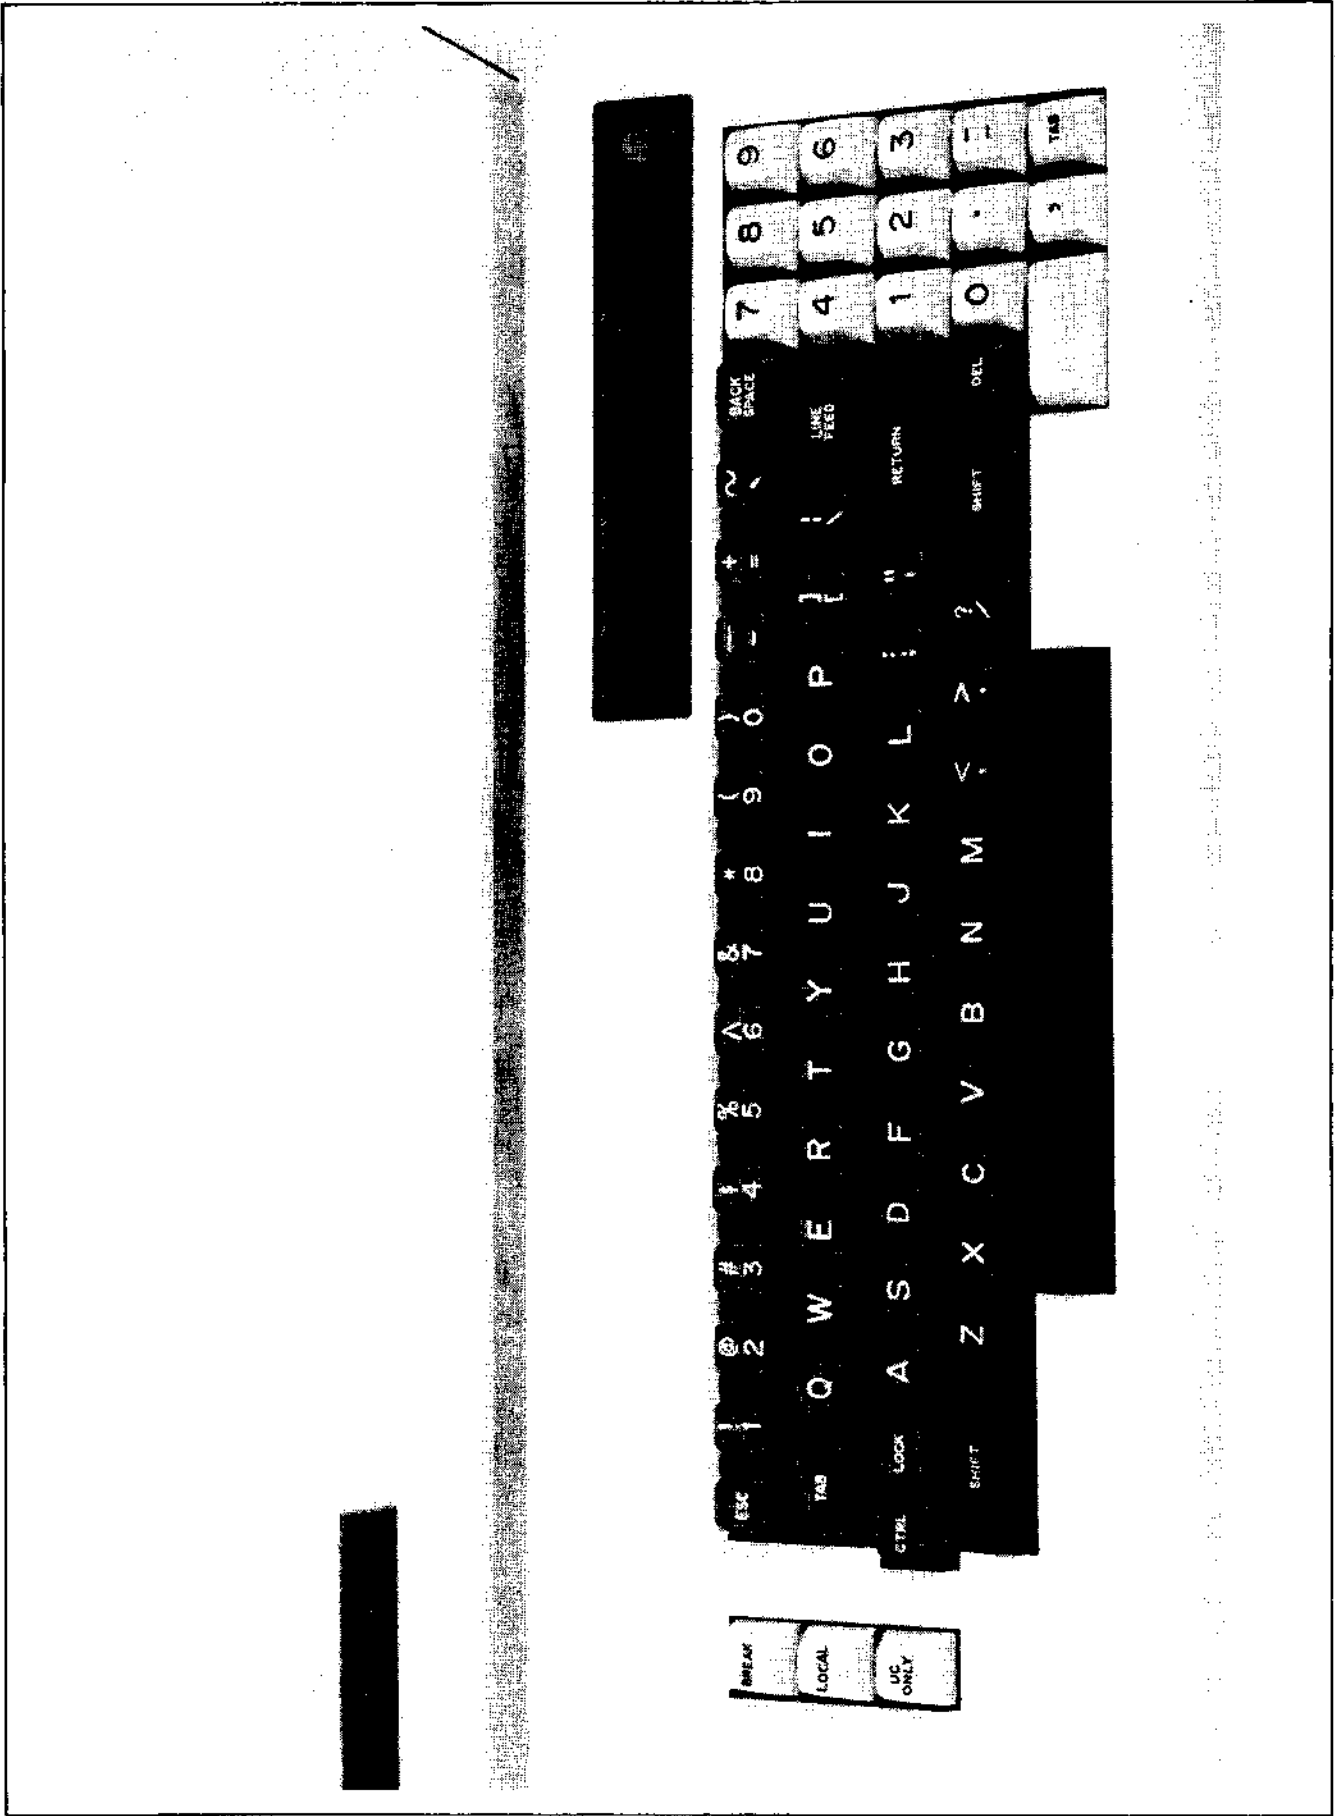

Figure 2-4. 46-Key Typewriter Pairing Keyboard
Several different types of keyboards are available to meet many different customer requirements. This section explains a typical keyboard (Figure 2-4), and the information contained here can be transferred to other keyboards with little difficulty.
2.2.3.1.1 Control Mode. In addition to the "unshifted" and "shifted" modes of operation, a third keyboard mode, called "control" mode, is available. This mode is used to generate special control characters, such as RS, US, VT, etc. These control characters are used to perform special functions such as vertical tab, absolute horizontal tab, etc. Control mode is in effect whenever the CTRL key is held down: to generate a code in control mode, depress and hold down the CTRL key and then depress and release another key in the alphameric section. For example, to generate a Vertical Tab (VT) code on the keyboard shown in Figure 2-4, hold CTRL down and operate the "K" key once. Should both the SHIFT (or LOCK) and CTRL keys be depressed at the same time, the CTRL key will override, and the control mode will prevail.
2.2.3.1.3 Special Keys. On some keyboards, certain keys provide special functions. One of these already covered is the CTRL key. There are three others on the keyboard in Figure 2-4 worthy of special mention. These are the ESC key in the upper left, the LINE FEED key, on the right, and the DEL key, in the lower right.